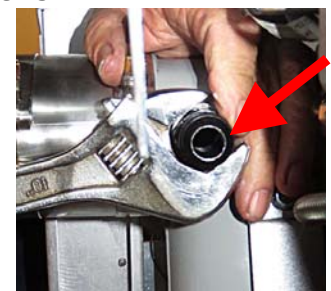

Figure 47
50. Insert flexline adaptor 8101068 into the port in the rear of the drain tube and tighten (see Figure 47).